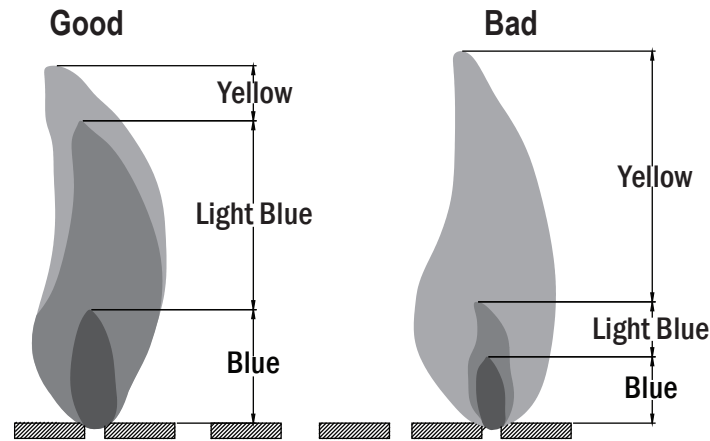

Figure 25
**Observe Flame Height When Lit:** The burner will display blue and yellow flames. These flames should be a blue / yellow color between 1~2 in. height, (see Figure 25). These flames should not be yellow or produce thick smoke. This would indicate an obstruction of airflow through the burners. The flames should be blue with straight yellow tops.